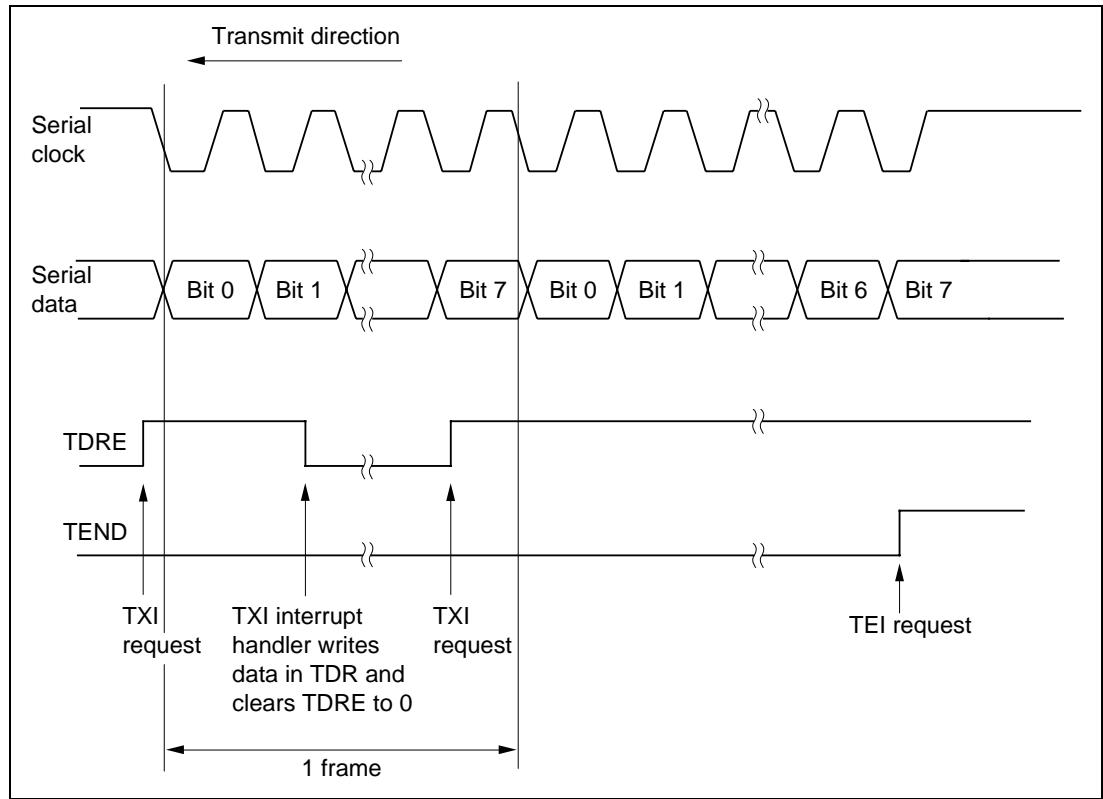

**Figure 14-11 Sample Flowchart for Serial Transmitting**
**Transmitting Serial Data (Clocked Synchronous Mode):** Figure 14-11 shows a sample flowchart for transmitting serial data and indicates the procedure to follow.